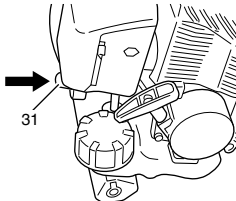

Fig. 15
2. Push priming bulb (31) about ten times so that fuel flows into carburetor. (Fig. 15)